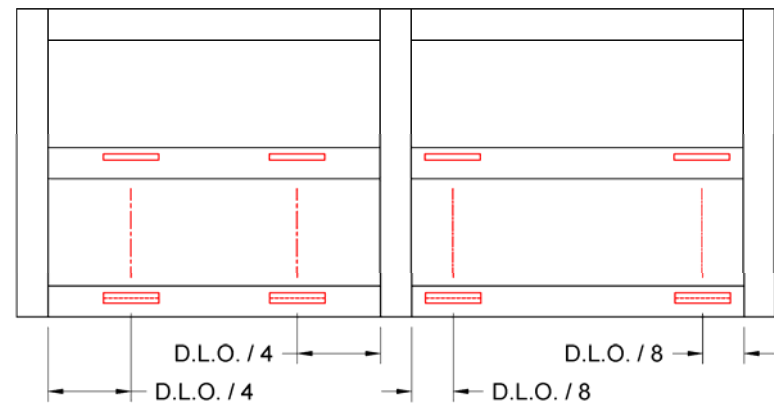

Figure 31
- Refer to figure 31 to verify 1/4 point (on left side) and 1/8 point (on right side) blocking.